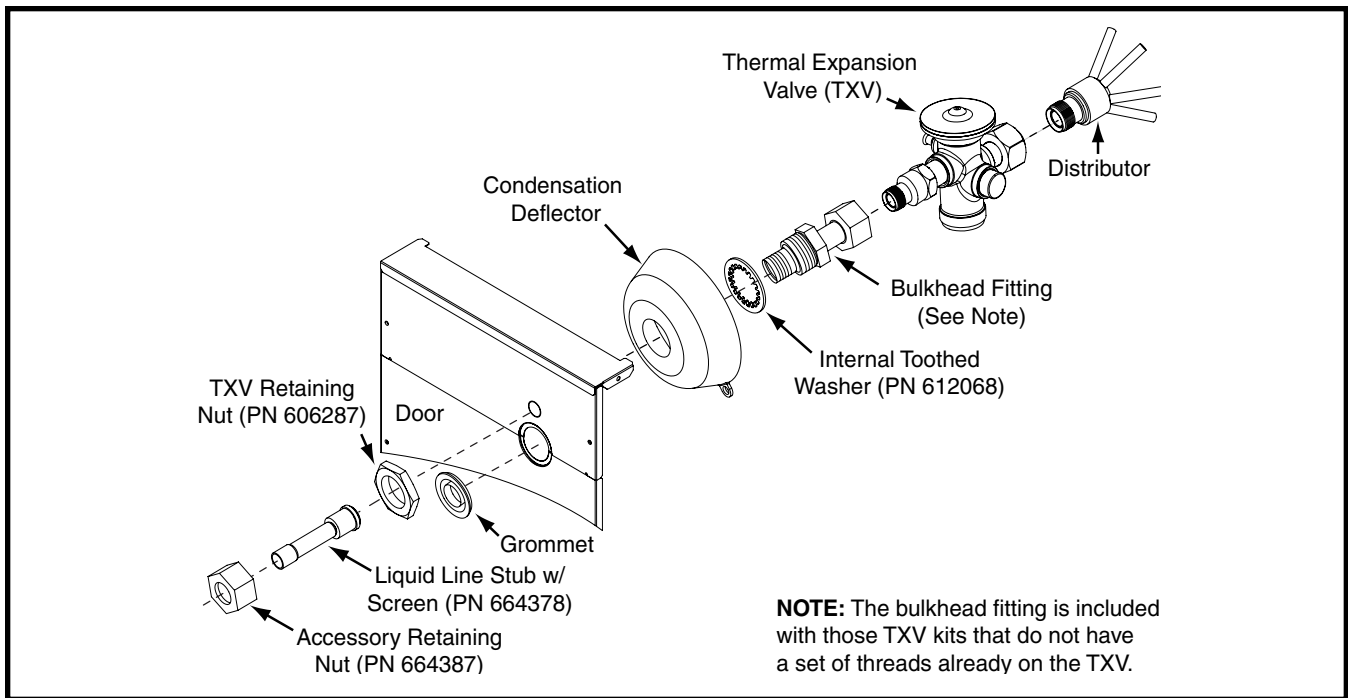

Figure 5. TXV Assembly As Installed
10. Install the accessory retaining nut and the liquid line stub onto the liquid lineset (Figure 5, page 5).
12. Install the thermal expansion valve (Figure 5).